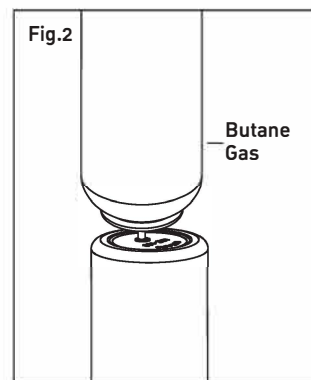

Fig.2
- 1.5 Refilling with butane gas as shown with gas cartridge bottom facing up (Fig. 2). Stop filling when overflow gas.